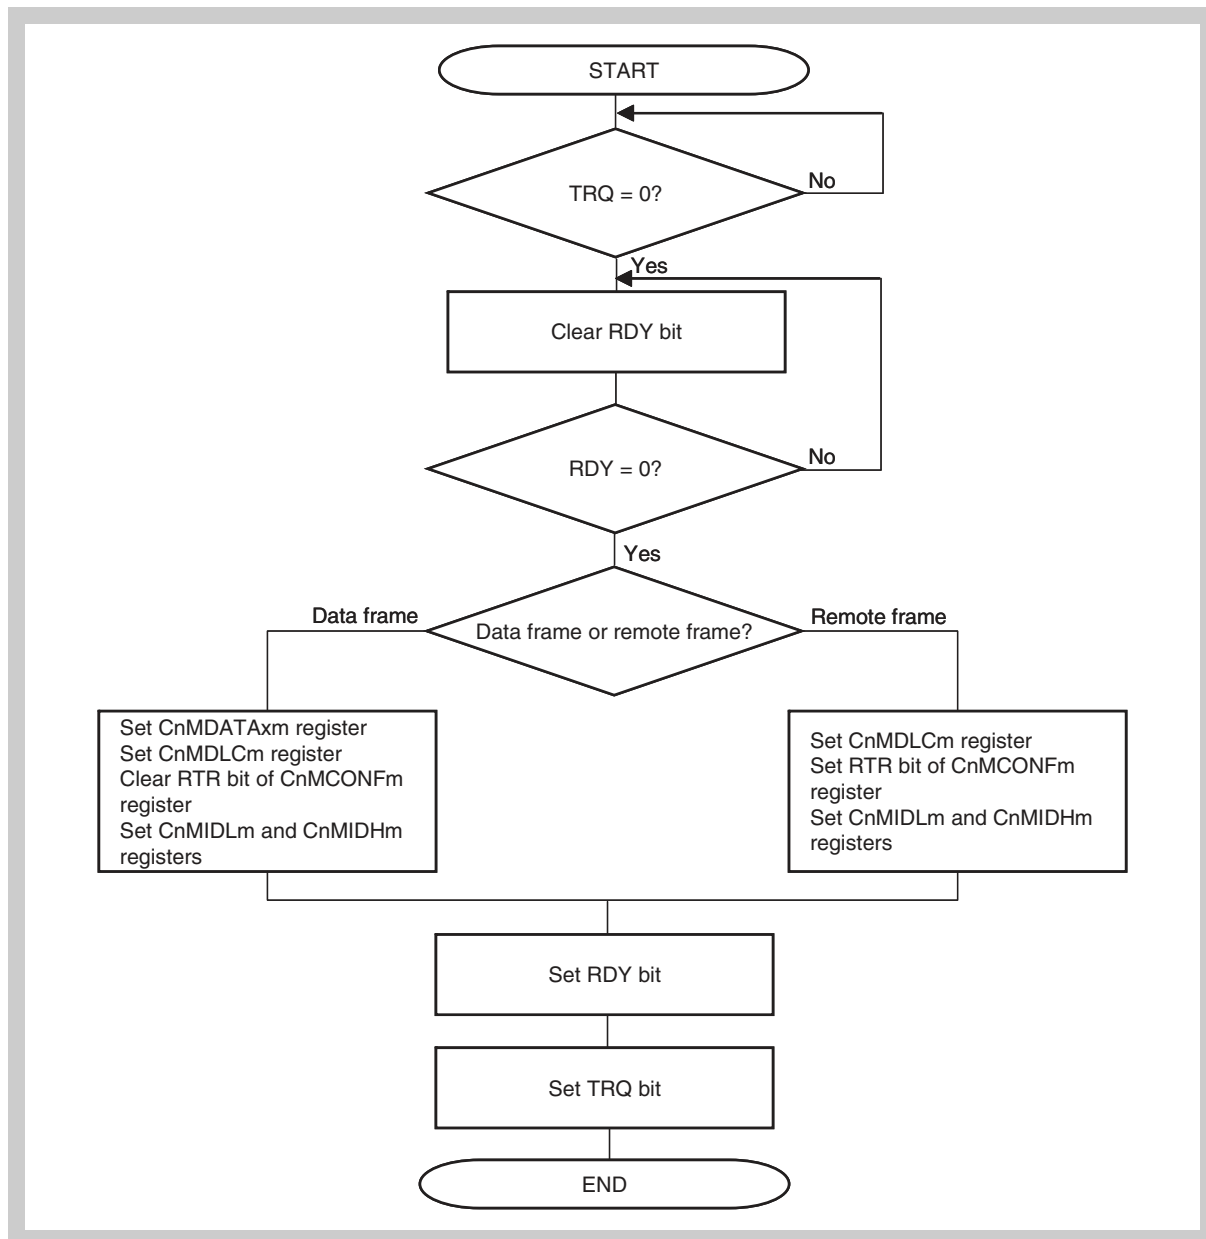

Figure 20-40 Message transmit processing
Figure 20-40 shows the processing for a transmit message buffer (MT[2:0] bits of CnMCONFm register = 000B).
**Note** This processing (normal operation mode with ABT) can only be applied to message buffers 0 to 7. For message buffers other than the ABT message buffers, see Figure 20-40 on page 796.